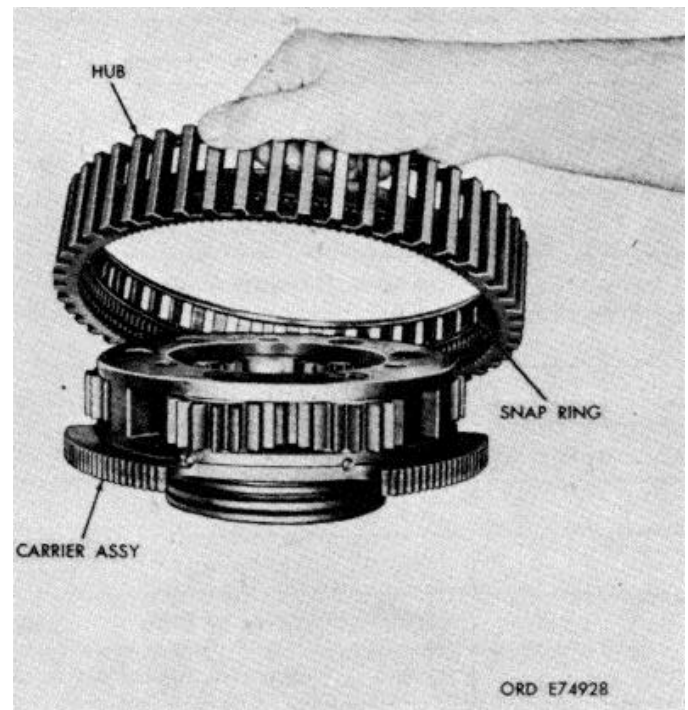

Figure 7-29. Installing reverse-range clutch hub onto carrier assembly.
j. Install retaining ring (40) into the hub of planetary carrier assembly (36).
k. Install bearing (34) into the hub of carrier assembly (36). Press the bearing until it is firmly seated against retaining ring (40).
l. Install retaining ring (33) into the hub of carrier assembly (36).
m. Install retaining ring (44) into reverse-range clutch hub (43).
n. Install hub (43) with retaining snap ring (44) onto reverse-range carrier assembly (36), Refer to figure 7-29.